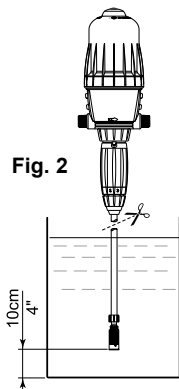

Fig. 2
**IMPORTANT !** - Do not put the suction tube strainer on the bottom of the stock solution container. The strainer must be suspended at least 10cm [4"] above the bottom of the tank to avoid sucking up the insoluble particles that may damage the injection assembly (Fig.2).